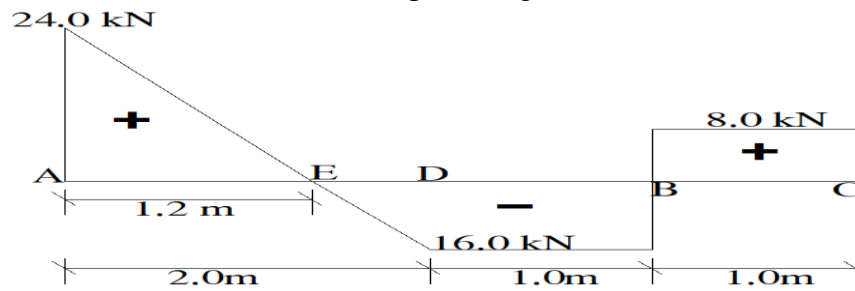

Figure 6
- b) A beam ABC is simply supported at A and B. Supports A and B are at 3 m apart. The shear force diagram is as shown in the figure 6. Obtain the load diagram. Assume that there is no couple acting on the beam. 04